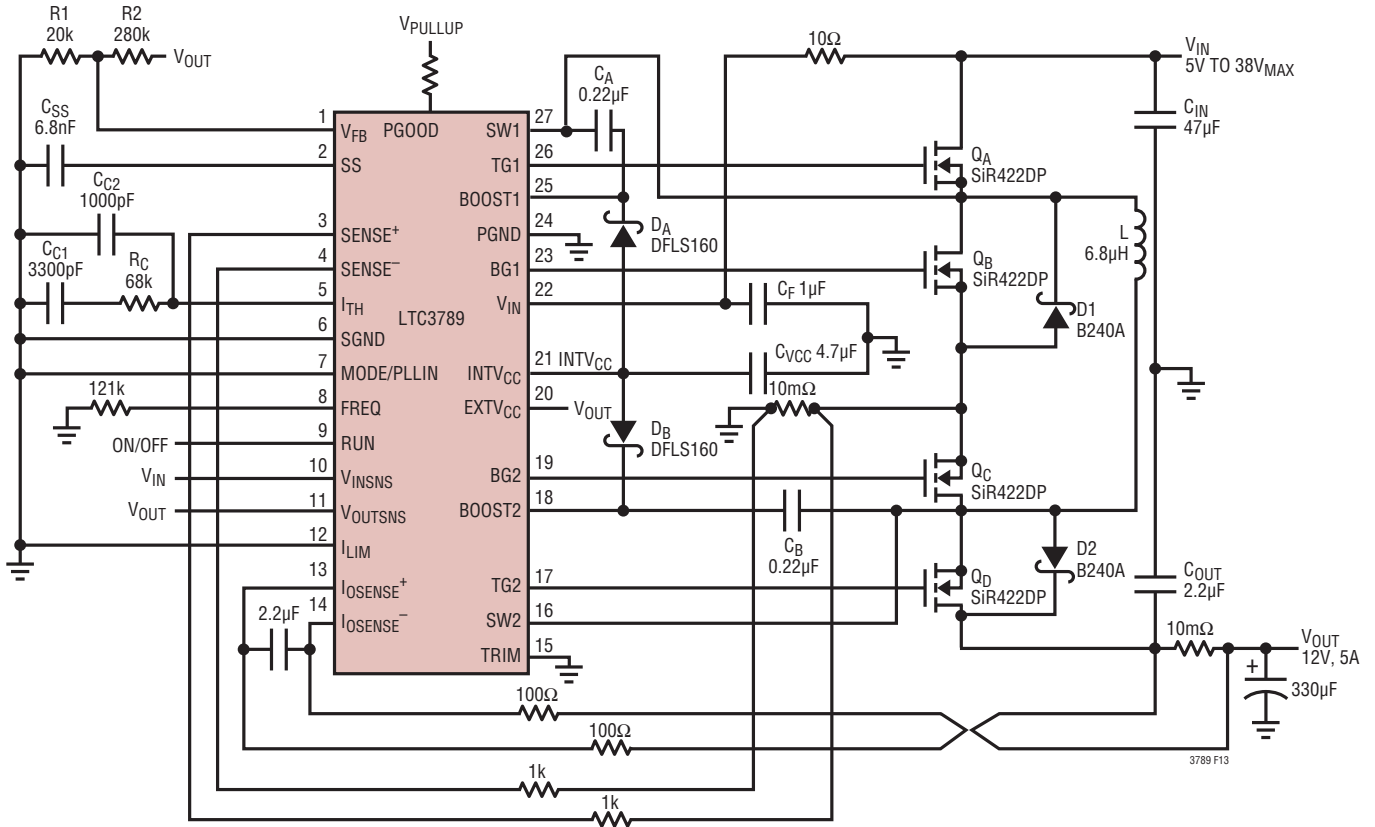

Figure 13. LTC3789 12V/5A, Buck-Boost Regulator
Referring to Figure 13, the external bootstrap capacitors C_A and C_B connected to the BOOST1 and BOOST2 pins supply the gate drive voltage for the topside MOSFET switches A and D. When the top switch A turns on, the switch node SW1 rises to V_{IN} and the BOOST1 pin rises to approximately V_{IN} + INTV_{CC}. When the bottom switch B turns on, the switch node SW1 drops to low and the boost capacitor C_A is charged through D_A from INTV_{CC}. When the top switch D turns on, the switch node SW2 rises to V_{OUT} and the BOOST2 pin rises to approximately V_{OUT} + INTV_{CC}. When the bottom switch C turns on, the switch node SW2 drops to low and the boost capacitor C_B is charged through D_B from INTV_{CC}. The boost capacitors C_A and C_B need to store about 100 times the gate charge required by the top switches A and D. In most applications, a 0.1μF to 0.47μF, X5R or X7R dielectric capacitor is adequate.
- Flood all unused areas on all layers with copper. Flooding with copper will reduce the temperature rise of power components. Connect the copper areas to any DC net (V_{IN} or GND). When laying out the printed circuit board, the following checklist should be used to ensure proper operation of the LTC3789. These items are also illustrated in Figure 13.